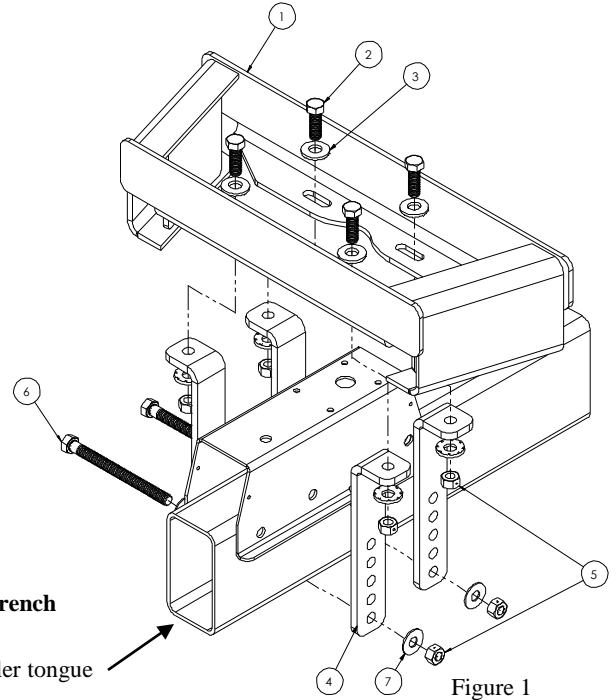

Figure 1
①	Qty. (1)	Cross channel	⑤	Qty. (6)	Hex Lock Nut, 1/2-13
②	Qty. (4)	Hex Bolt, 1/2-13 x 1.50 Lg. GR5	⑥	Qty. (2)	Hex Bolt, 1/2 - 13 x 6 Lg. GR5
③	Qty. (8)	Conical Toothed Washer, 1/2	⑦	Qty. (4)	Flat Washer, 1/2
④	Qty. (4)	Angle Bracket
**APPLICATION:** This adapter is designed to be used as a mounting platform used with Cequent Towing Products Weight Distributing Round bar, Trunnion bar (square) or Pro Series SC WD kits up to 1,400 pounds maximum tongue weight as shown in Figure 1. If pole tongue adapter is used as shown in figure 2 – maximum trailer weight 12,000 lbs with a max tongue weight of 1,200 lbs.
- Center the cross channel (1) on the trailer tongue approximately 29" rearward from the center of the coupler. This dimension will vary depending on the model of WD system used.
- Loosely attach the (2) angle brackets (item 4) to the cross channel (Item 1) using the 1/2" x 1.50 hex bolts (Item 2), conical toothed washers (Item 3), and hex lock nuts (Item 6) as shown.
- Slide the angle brackets (item 4) tight against side of trailer tongue. Tighten all (4) four 1/2" x 1.50 hex bolts (Item 2).